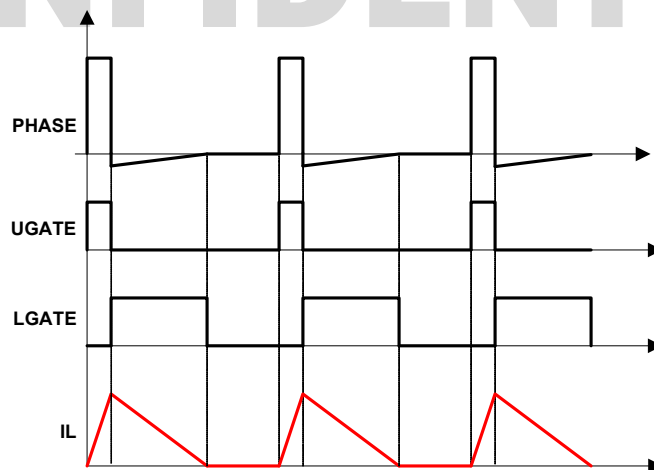

Figure 28. Diode Emulation
The R3 modulator can operate in Diode Emulation (DE) mode to increase light-load efficiency. In DE mode the low-side MOSFET conducts when the current is flowing from source-to-drain and does not allow reverse current, emulating a diode. As shown in Figure 28, when LGATE is on, the low-side MOSFET carries current, creating negative voltage on the phase node due to the voltage drop across the ON-resistance. The IC monitors the current by monitoring the phase node voltage. It turns off LGATE when the phase node voltage reaches zero to prevent the inductor current from reversing the direction and creating unnecessary power loss.
If the load current is light enough, as Figure 28 shows, the inductor current will reach and stay at zero before the next phase node pulse and the regulator is in Discontinuous Conduction Mode (DCM). If the load current is heavy enough, the inductor current will never reach 0A and the regulator is in Continuous Conduction Mode (CCM) although the controller is in DE mode.